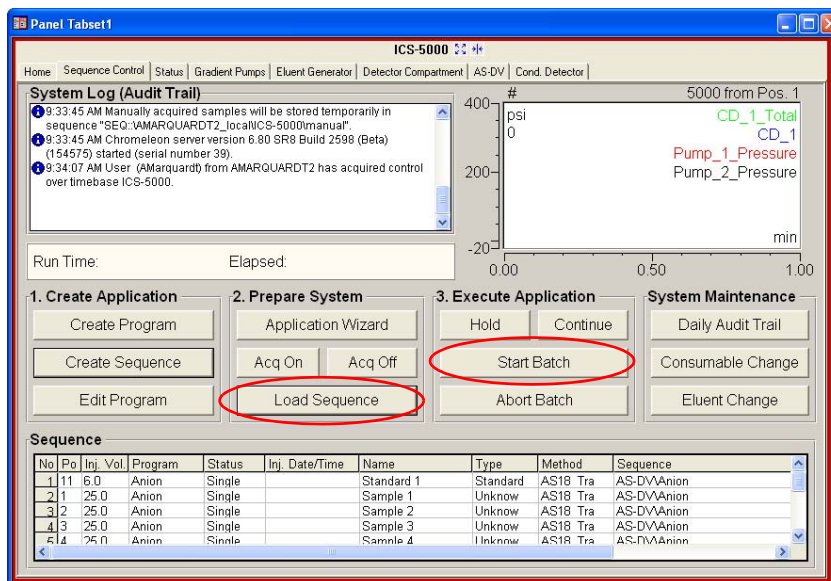

Figure 5-7. Starting a Sequence in Chromeleon 6.8
- On the **Sequence Control** panel, click **Load Sequence** (see Figure 5-7).
- Click **Start Batch** (see Figure 5-7).